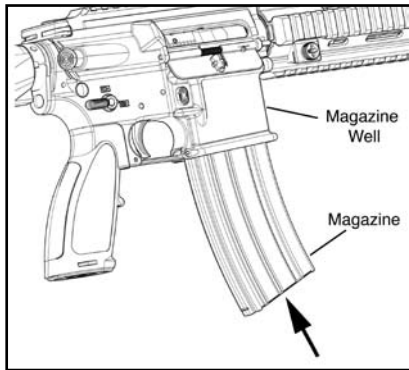

Fig.17 – Inserting Magazine into the Rifle
4. Insert a loaded magazine into the magazine well until the magazine catch engages the magazine (Fig. 17).
3. Insert a loaded magazine into the magazine well until the magazine catch engages the magazine (Fig. 17).